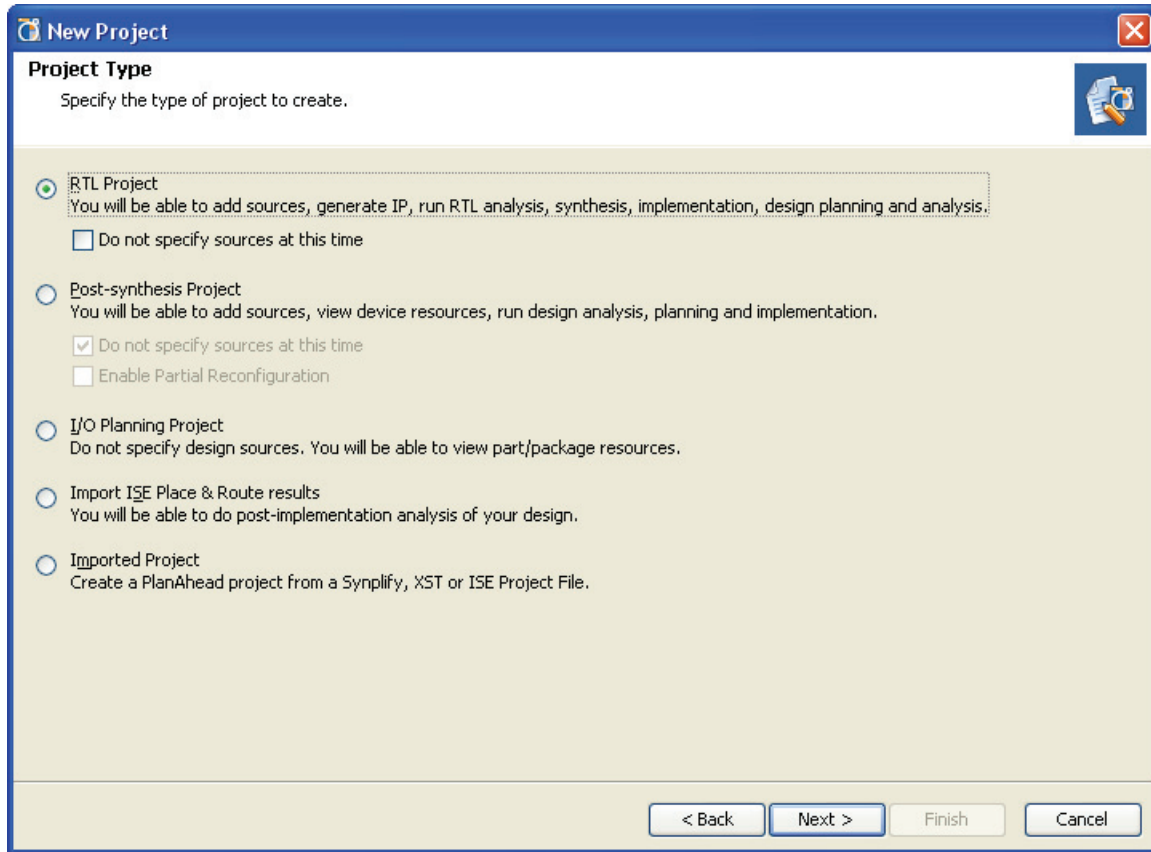

Figure 3-2: New Project Wizard: Project Type
Designate the Project Type by selecting one of the options shown in Figure 3-2, page 38. This selection determines the type of source files that can be associated with the project.
2. In the Project Type page shown in Figure 3-2, select the **RTL Project** option.